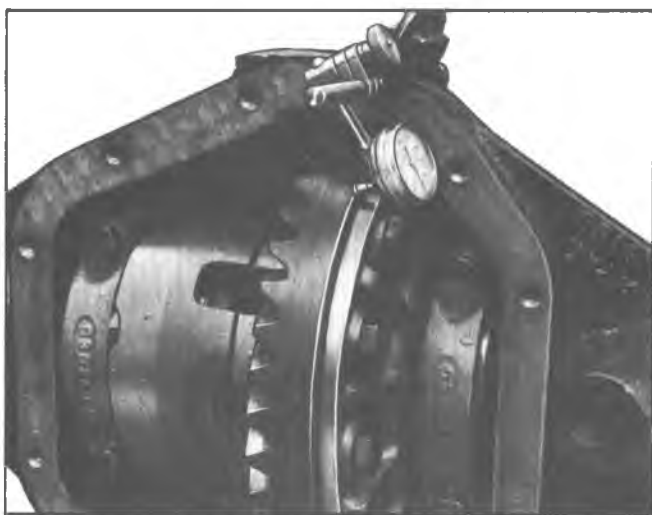

Fig. 7--Checking Runout
7. Install dial indicator on carrier with indicator button contacting back of ring gear (Fig. 7). Rotate differential case and check for runout. If runout is greater than .002", the assembly should be removed and the ring gear removed from the case. Again install differential case and check runout at differential case flange.
2. Install dial indicator on carrier with indicator button contacting back of ring gear (Fig. 7).